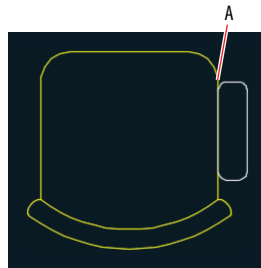

FIGURE 7.21 Drawing an armrest
- For the first corner, click point A, shown in Figure 7.21. Then type **@3,-10** (or **@7,-25** for metric), and press Enter to complete the RECTANGLE command.